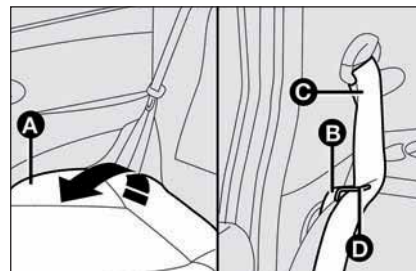

fig. 117
- check that each of the two side seat belts **C-fig. 117** is inserted in the corresponding seat belt guide **C-fig. 117**;
- raise the cushion **A-fig. 117** as shown in the figure ;
- release the backrest, by moving the levers **B-fig. 117** then fold it forward to obtain a flat loading surface.